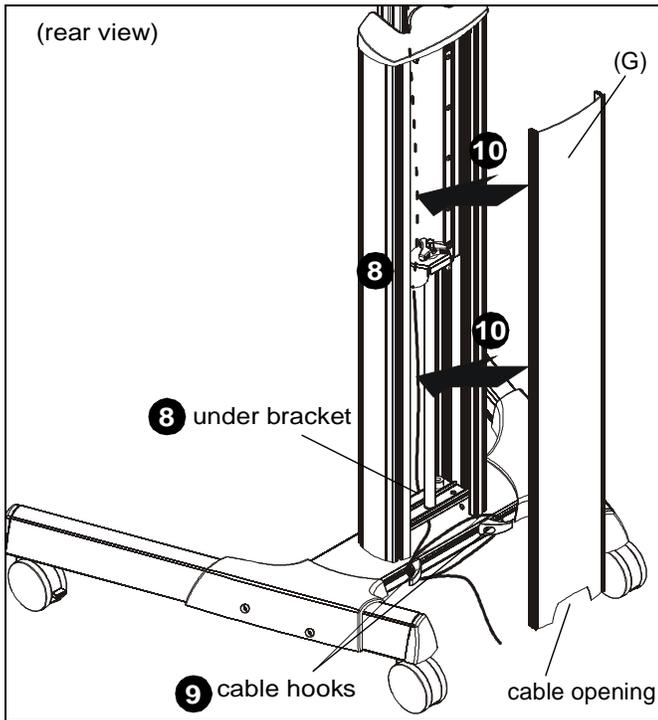

Figure 15
8. Route cables down column channel, tucking them behind height-adjustment carriage and underneath bracket holding height-adjustment shaft. (See Figure 15)
9. Wrap cables around cable hooks as desired. (See Figure 15)
10. Snap back cover (G) onto back of column assembly making sure cables fit through opening at bottom of cover. (See Figure 15)
**WARNING:** Do not attempt to raise or lower the adjustment carriage beyond its upper or lower limit. High and low points are shown in Figures 15 and 16.
4. Reinstall cable cover (G) to column assembly.